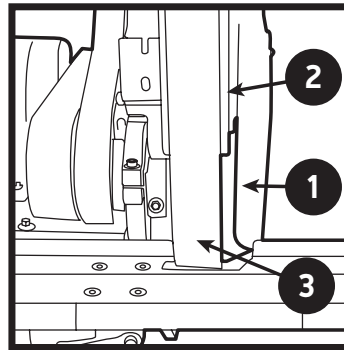

Figure 1
- a. The contact wheel guard and vertical platen are mounted and adjusted such that the platen lightly touches the back of the abrasive belt (Figure 1). **See page 7 for complete instructions on installation.**